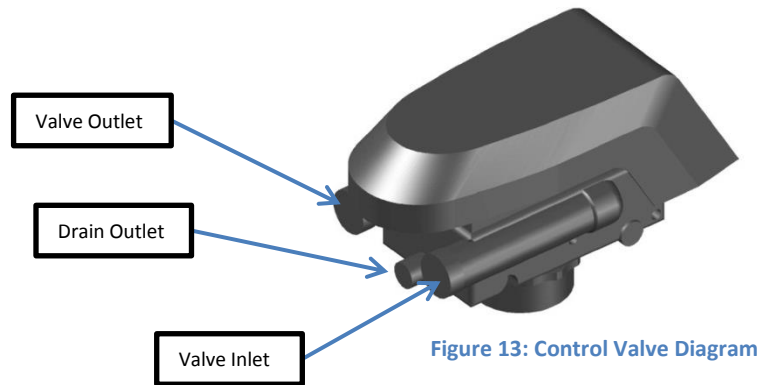

Figure 13: Control Valve Diagram
- A. Pipe or tube a line from the Control Valve Drain (Figure 13) to the drain. Refer to section 9 for the proper sized drain line.